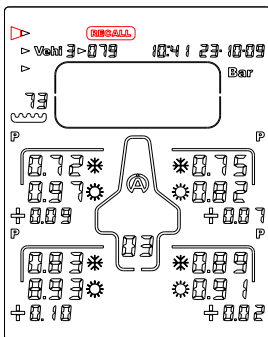

Figure 8
- 1) With the help of the buttons , select the icon « **RECALL** » (figure 8)